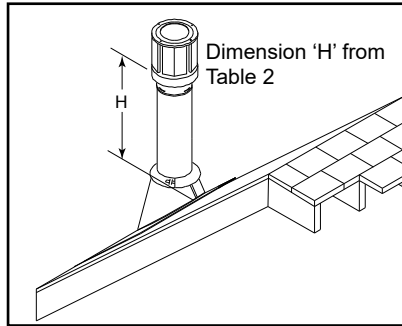

**Figure 3.35**
2. If an offset is necessary in the attic to avoid obstructions, it is important to support the vent pipe in order to avoid excessive stress on the elbows. Wall straps or plumber tape may be used for this purpose, Figure 3.35
2. Once the center point of the penetration has been determined, cut a 6" (152 mm) diameter hole in the masonry. Be careful, if the hole is too large, the retro connector might not mount properly. If the hole is too small, then the appliance might starve for intake air. If there is a frame wall in front of the masonry wall, cut and frame a 10" (254 mm) clear square opening in the wall (centered around the 6" (152 mm) masonry opening). If there is sheet rock only (no studs) in front of the masonry, the 10" (254 mm) clear opening is still needed, but does not need to be framed. This allows the retro connector to mount directly on the masonry and provide clearance to the combustibles, Figure 3.35.